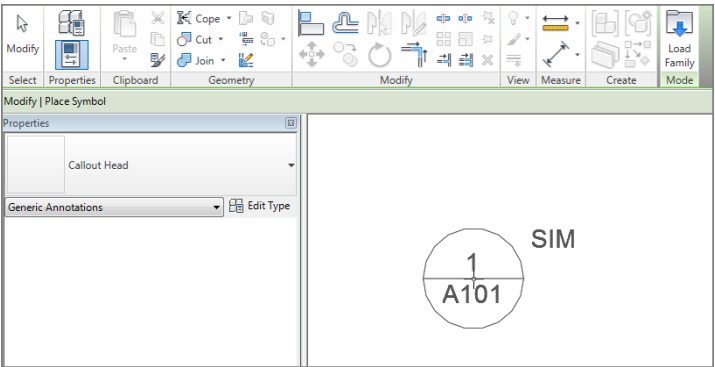

FIGURE 11.47: Placing the callout head
- 7. Place the callout head into the view (see Figure 11.47).